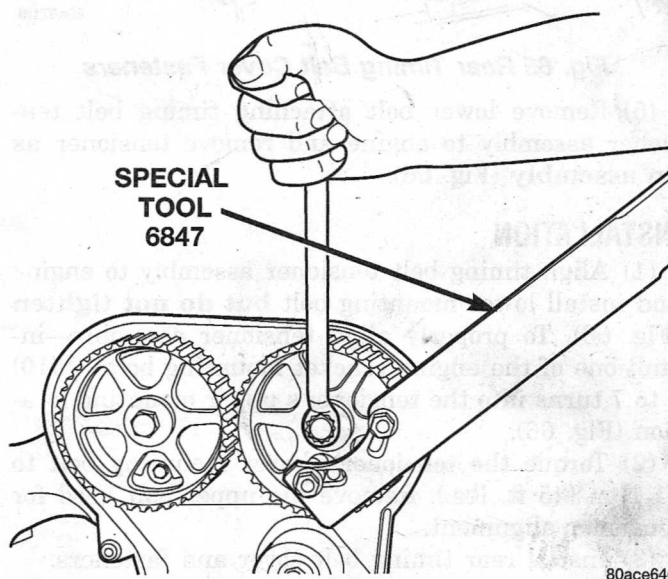

Fig. 64 Camshaft Sprockets—Removal/Installation
(1) Remove timing belt. Refer to Removal and Installation procedure in this section.
(2) Remove timing belt idler pulley.
(3) Hold camshaft sprocket with Special Tool 6847 while removing bolt (Fig. 64). Remove both cam sprockets.
(2) Torque the tensioner's lower mounting bolt to 61 N·m (45 ft. lbs.). Remove the upper bolt used for tensioner alignment.
(3) Install rear timing belt cover and fasteners.
(4) Install timing belt idler pulley and torque mounting bolt to 61 N·m (45 ft. lbs.).
(5) Install camshaft sprockets. Use Special Tool 6847 to hold sprockets (Fig. 64), torque bolts to 101 N·m (75 ft. lbs.).
(6) Install timing belt. Refer to procedure in this section.